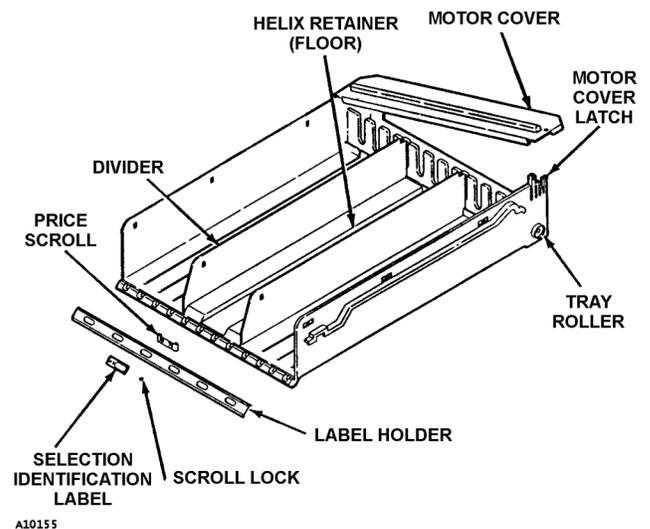

Figure 11
2. Remove the motor cover. See **Figure 11**.